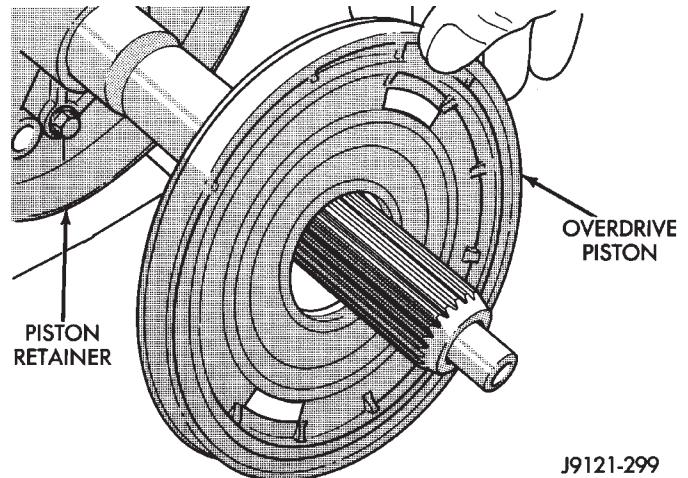

Fig. 186 Overdrive Piston Removal
(3) Remove overdrive piston from retainer (Fig. 186).